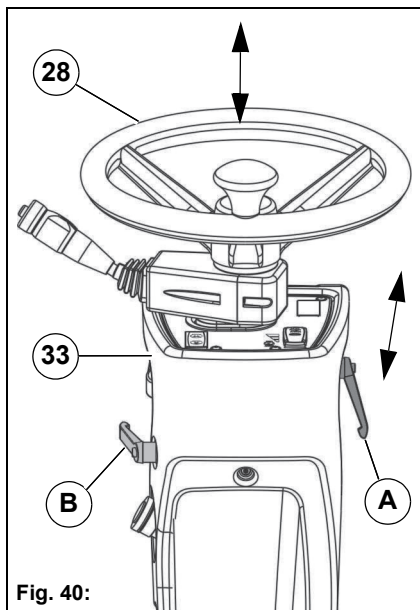

Fig. 40:
- Turn the lever **Fig. 40-A** counter-clockwise until the steering column is unlocked.
- Turn the lever **Fig. 40-B** counter-clockwise until the steering wheel is unlocked.